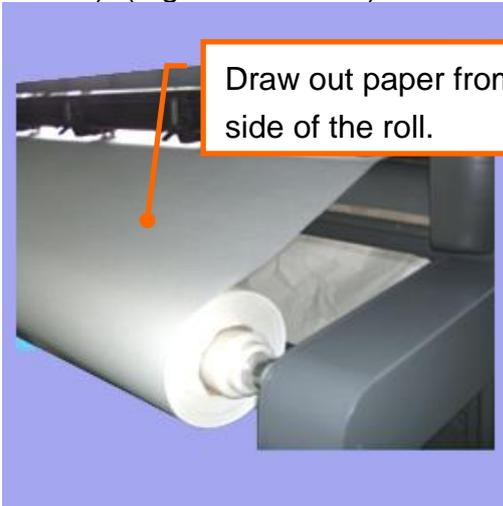

Figure 4-4
Step 5 Draw out paper from upper side of the paper roll, then go through the plotter to the front side. Make sure paper is loaded on center of the platen before press down Lever (Pinch Roller). (Figure 4-4 & 4-5)